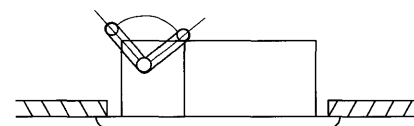

Fig. 15
3. After performing items 1 and 2 install the drain raising pipe to the drain pipe opening on the indoor unit and tighten with the clamp.
- Adjust the drain raising height by turning. (Refer to Fig. 15)